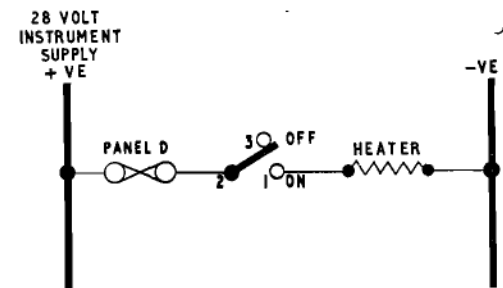

Fig. 4. Pressure head heater
**PITOT HEAD HEATERS (fig. 4)**